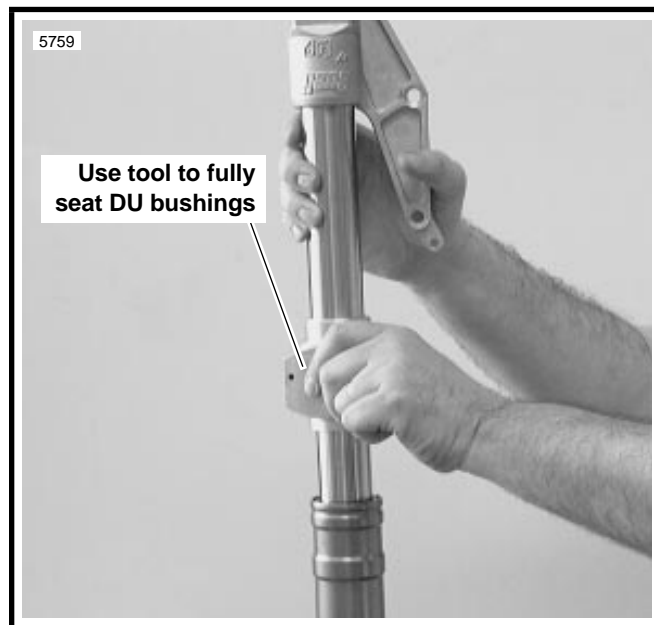

Figure 2-34. Installing Bushings and Seals Using Front Fork Bushing/Seal Installer (Part No. B-41176)
5. Clamp outer tube (9) upside down using **FRONT FORK HOLDING TOOL** (Part No. B-41177).
6. See Figure 2-34. Place inner tube assembly inside outer tube. Using **bushing** side of **FRONT FORK BUSHING/SEAL INSTALLER** (Part No. B-41176), drive in DU bushings until fully seated.